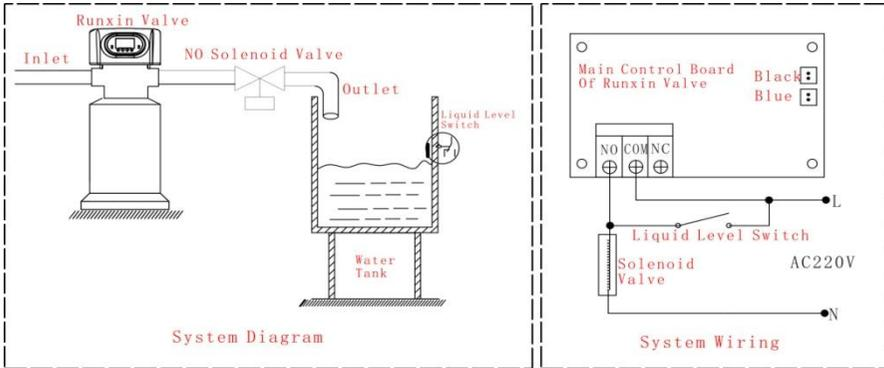

Figure 3-2
①Solenoid Valve on Outlet Controls Water Level in Brine Tank.
**Instruction:** If system strictly require no hard water flow from outlet in regeneration cycle( Mainly for no hard water flow out when valve is switching or valve in backwash or brine drawing positions), a solenoid valve could be installed on outlet, the wiring refers to Figure 3-2.